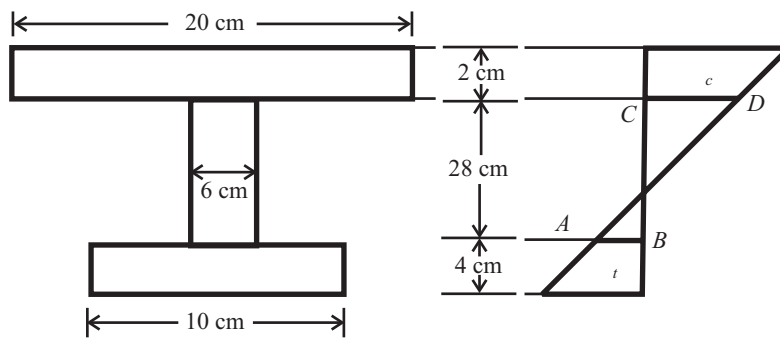

Fig 16.21
Q. 29: Cross section of beam is shown in fig 16.21, permissible stress in compression and tension are 1000 Kg/cm² and 1400 Kg/cm². It is subjected to a moment causing compression at top and tension at bottom. Calculate compression in top flange and tension in bottom flange.